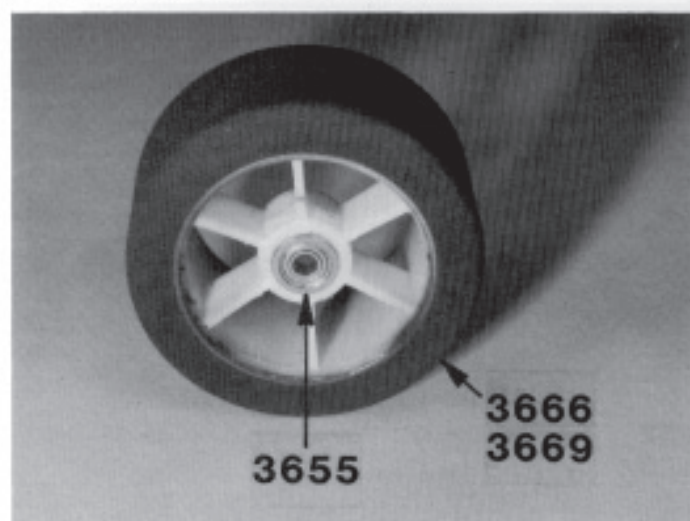

Fig. 57
**Fig. 57** In the kit box you will find a smaller box containing the front and rear wheels and tires. Take out the #3669 front wheels and tires. Back in Figs. 24 & 25 we opened up the bearing bag. We now want to take out the four smaller #3655 1/8" x 5/16" flanged front wheel bearings from this bag. Install a #3655 bearing into the inside and outside of the #3669 front wheels as shown.